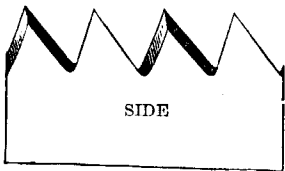
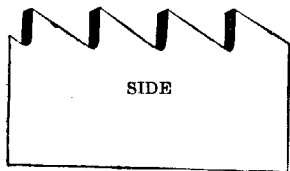
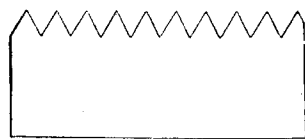

FIG. 2
FIG. 3
FIG. 5
B. If the teeth are of uniform size and correct shape as shown in Fig. 2 and Fig. 3 operations 2 and 3 will be omitted. Proceed with operations 4 "Setting" and 5 "Filing."
After "jointing" all teeth must be filed to conform in outline to the shape as shown in Fig. 5, for a cross cut saw or Fig. 3 (side view) for a rip saw.
Fig. 2 illustrates the bevel obtained in correctly sharpening a cross cut saw. Fig. 3 shows a correctly sharpened rip saw.